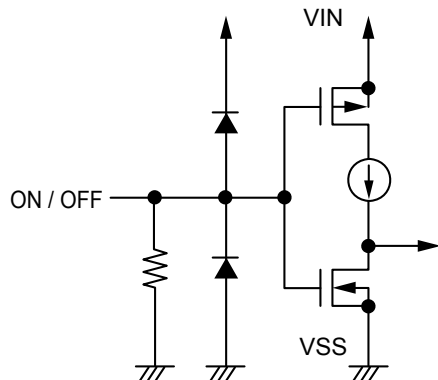

Figure 17
Note that the current consumption increases when a voltage of 0.3 V to 1.0 V ($T_a = 25^\circ\text{C}$) is applied to the ON / OFF pin. The ON / OFF pin is configured as shown in **Figures 17** and **18**. In the S-1137 Series A / C types, the ON / OFF pin is internally pulled down to the V_{SS} pin in the floating status, so the VOUT pin is set to the V_{SS} level. In the S-1137 Series B / D types, the ON / OFF pin is not internally pulled down, so do not use the pin in the floating status. When not using the ON / OFF pin in the S-1137 Series B / D types, connect the pin to the VIN pin.
*1. IC's current consumption increases as much as current flows into the pull-down resistor when the ON / OFF pin is connected to the VIN pin and the S-1137 Series A / C types is operating (**Figure 17**).